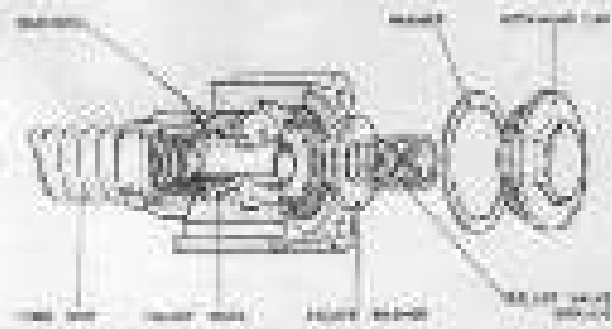

Fig. 12. Internal cooler valve assembly.
4. Hold the oil cooler body in a soft-jawed vice and remove the retaining cap and washer, followed by the relief valve spring and the scrape washer, see Fig.12.